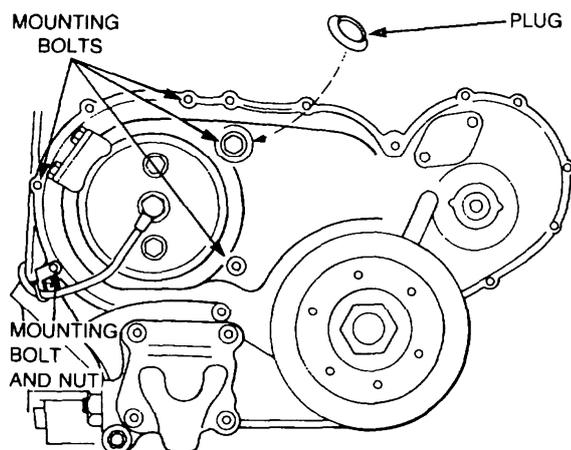

Figure 32 Injection Pump Removal
- n. Remove the seven injection pump mounting bolts (Figure 32).